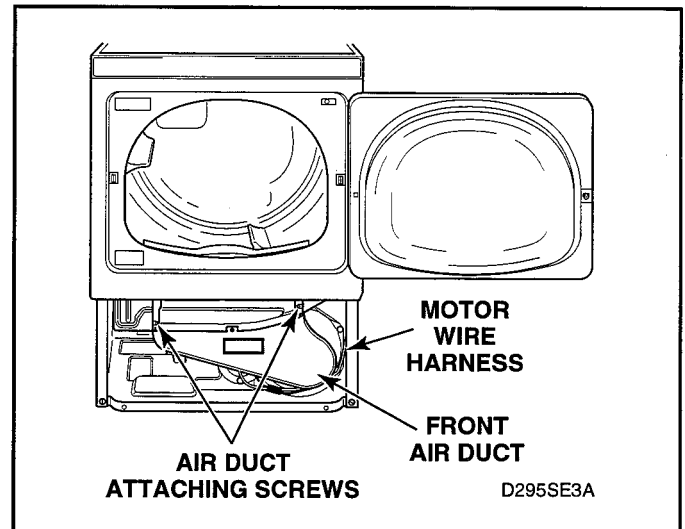

Figure 5-15
- Remove two screws holding duct to front bulkhead and remove air duct. See figure 5-15.
- Remove screws holding air duct to front bulkhead and remove air duct. See figure 5-15.
**IMPORTANT:** When reinstalling motor and exhaust assembly, be sure wire harness on right side is clipped to motor mounting bracket and is routed along dryer base (between motor mounting bracket and right side of cabinet). See figure 5-15. Tab on rear of motor mounting bracket must be slid into slot in dryer base. Be sure the belt has been installed on the correct side of the idler lever. See figure 5-17.